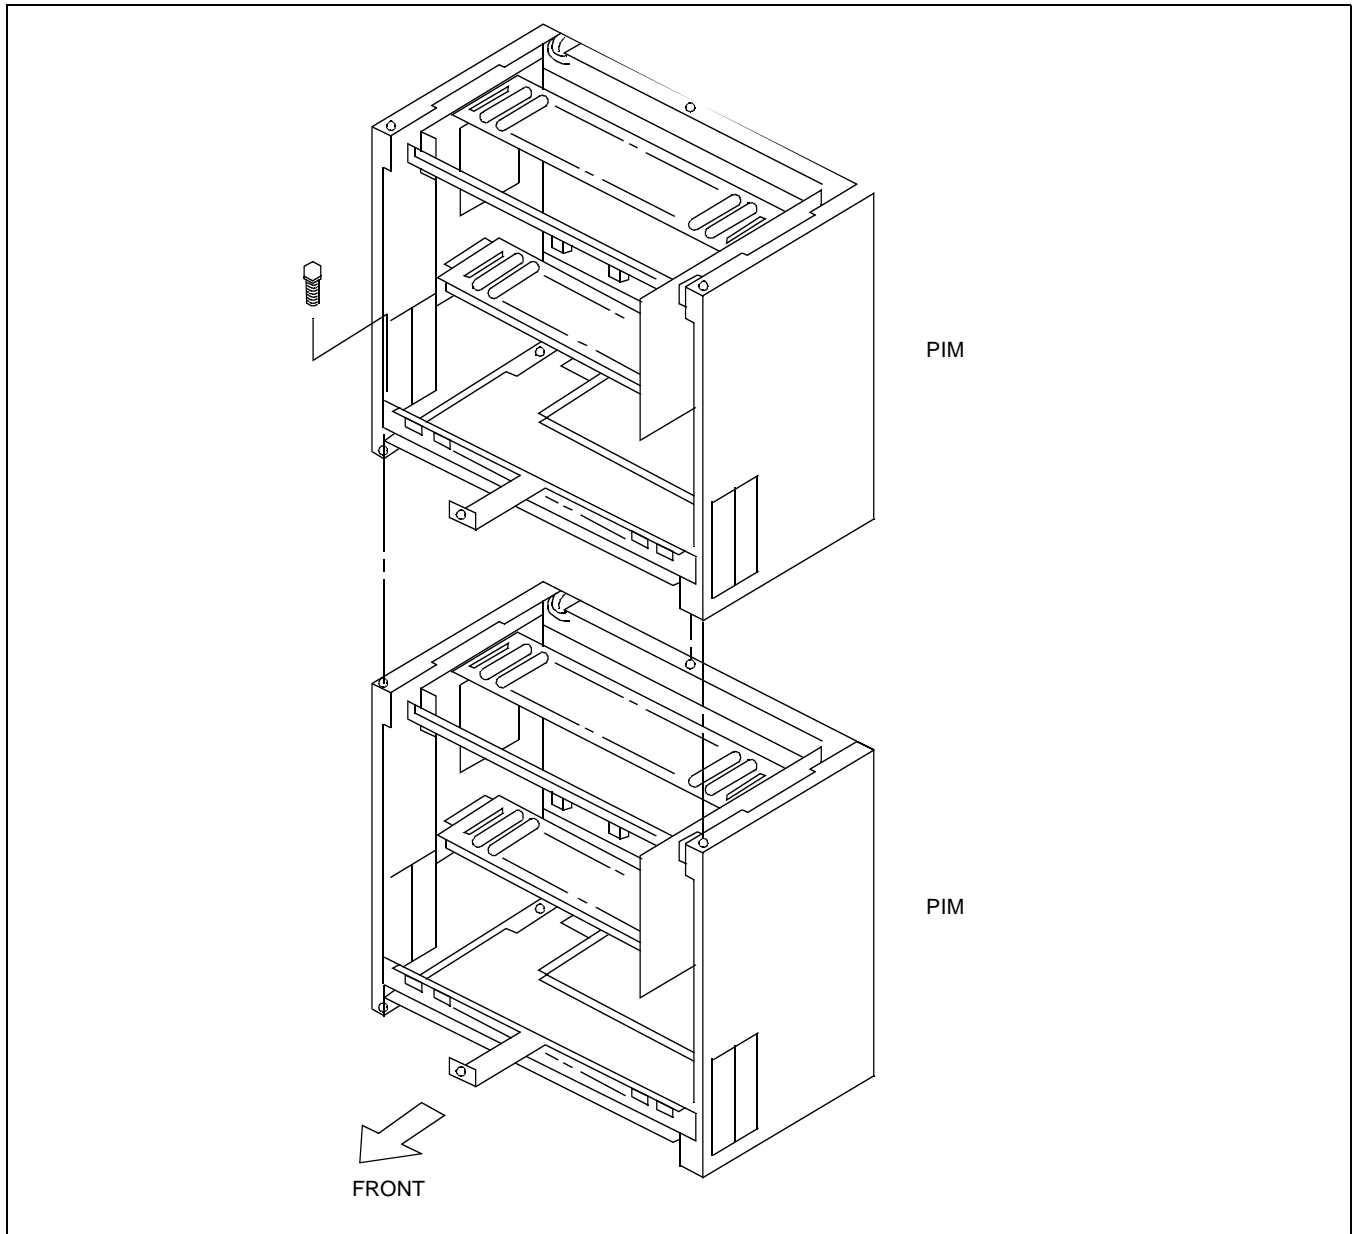
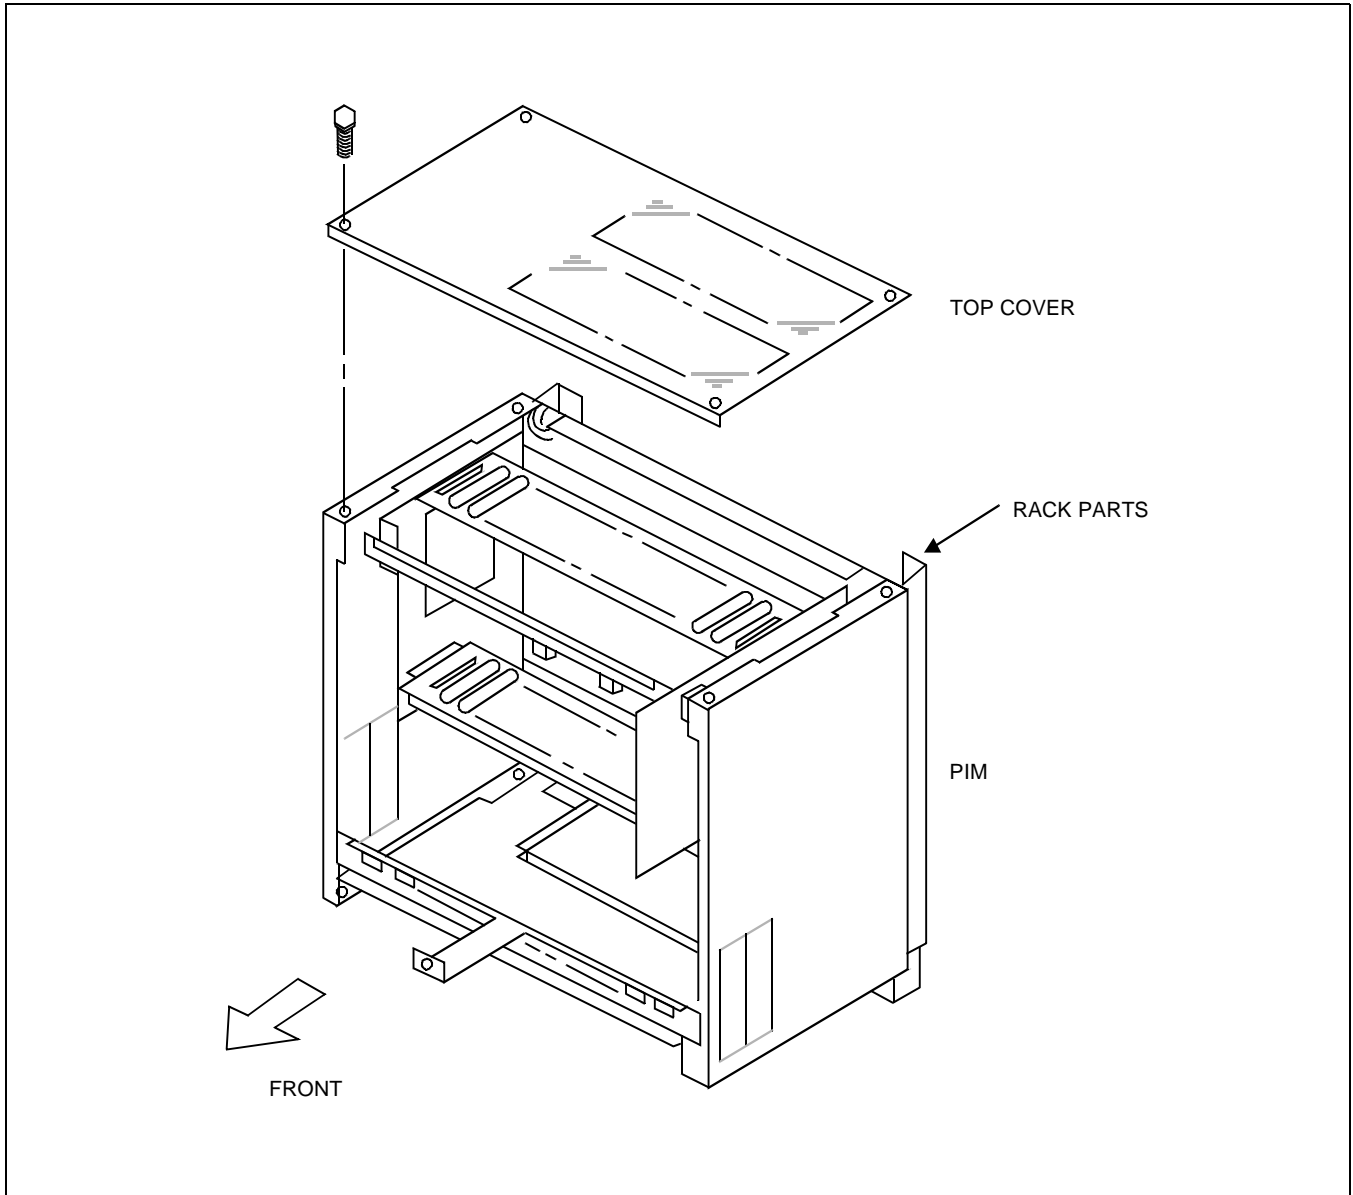

Figure 003-7 Connection of PIMs
Figure 003-8 Mounting of the TOP COVER
- (6) When the system is a multiple-PIM configuration, connect PIMs to each other with 3 bolts provided, as shown in Figure 003-7.
- (6) Connect the bottom PIM and the BASE, and connect PIMs to each other using 3 bolts (provided), as shown in Figure 003-6 and Figure 003-7. Then, position the TOP COVER on the top PIM and connect them together with 4 screws (provided), as shown in Figure 003-8.